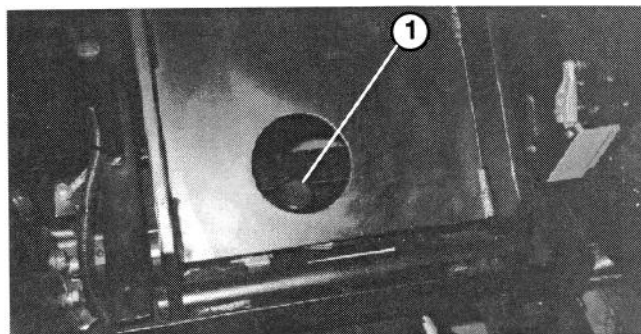

Figure 16
3. Clean area around reservoir breather cap (Fig. 16).